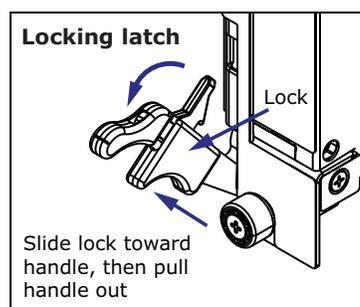

Figure 4.1 - PPM Locking Latch
2. Loosen the ejector handle thumbscrews on the PPM. Release the locking ejector latch that engages the hot-swap switch (Figure 4.1). This is the right ejector latch if the PPM is oriented horizontally, or the lower ejector latch if it is oriented vertically. Do not release the other latch at this time.
Never force open a locking ejector latch. The locking mechanism must be disengaged to release the latch or damage to the latch could occur. Refer to Figure 4.1.